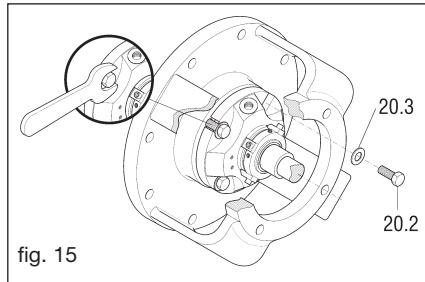

fig. 15
- Unscrew the screws (20.2) which fix the seal flange to the head (fig.15)
- Remove the head (19)
- Remove the seal (25), the shaft sleeve (31), the seal box (20) and the gasket (20.1)
- Tighten the fixing screws (20.2) carefully (fig. 15) so as to avoid strain on the stationary seat of the seal